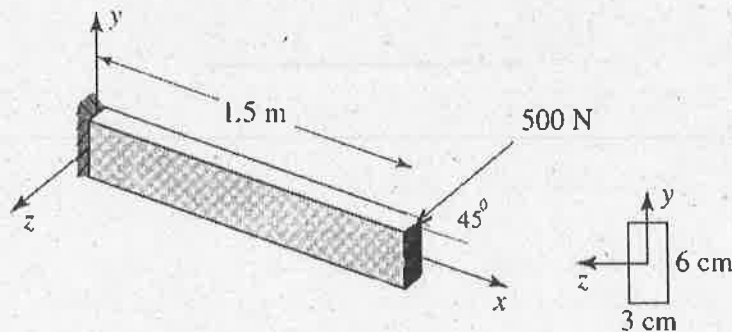

Fig. 16 (a)
16. (a) A beam with dimensions shown in Fig. 16 (a) is attached to a machine. If resonance occurs what will be the first mode of vibration? Why is this mode occurring first? Determine the fundamental frequency of the beam. (15)